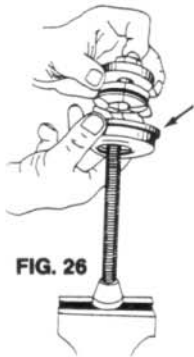

FIG. 26
5. Spin **HALF NUT** down so it just touches washer. (Fig. 26)